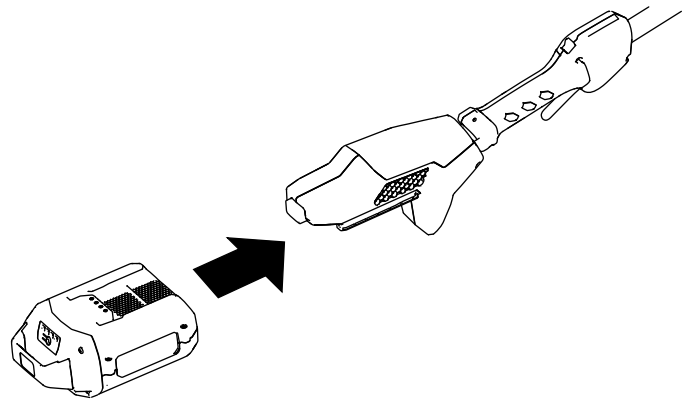

Figure 9
3. Align the cavity in the battery pack with the tongue on the handle housing (Figure 9).